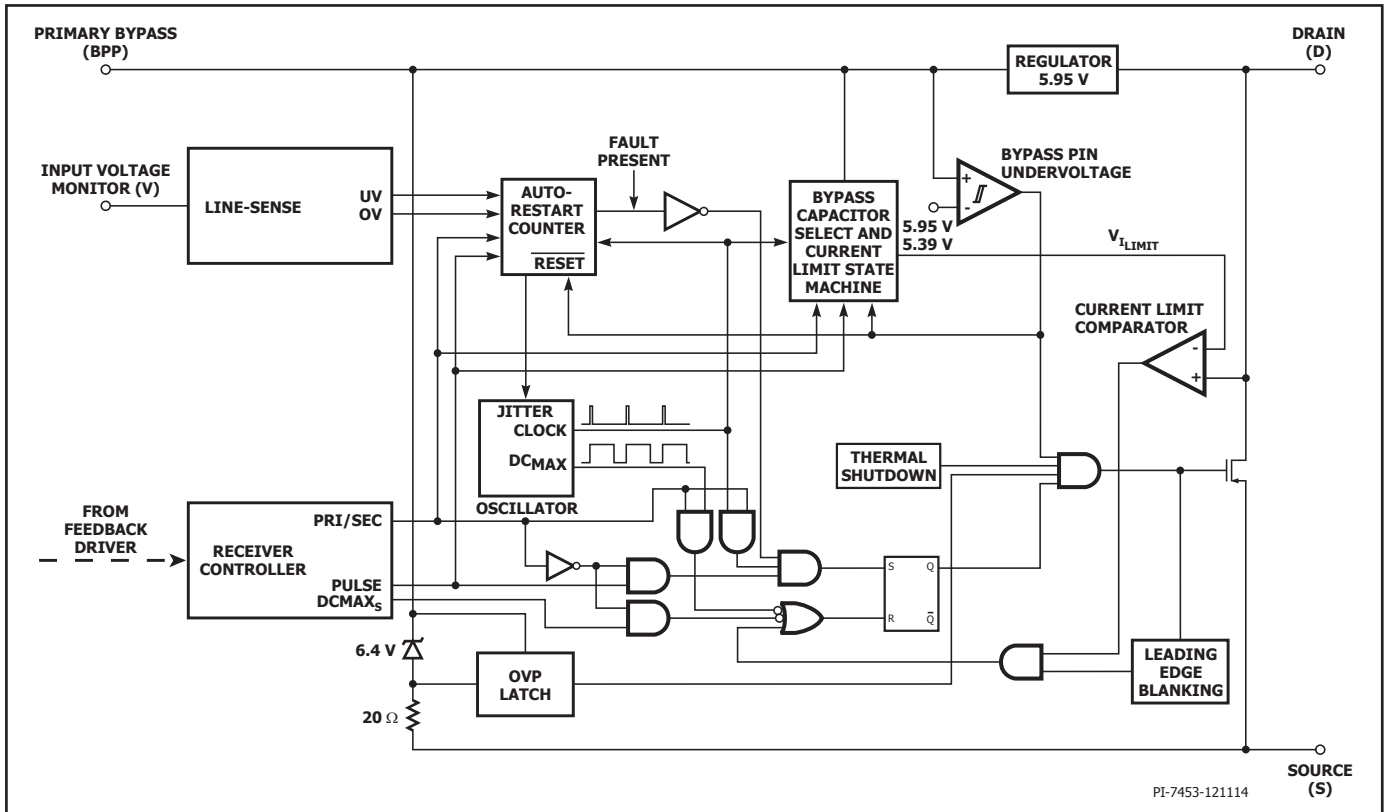

Figure 4. Primary-Side Controller Block Diagram.
The InnoSwitch-CP combines a high-voltage power MOSFET switch, along with both primary-side and secondary-side controllers in one device. It has a novel inductive coupling feedback scheme using the package leadframe and bond wires to provide a reliable and low-cost means to provide accurate direct sensing of the output voltage and output current on the secondary to communicate information to the primary IC. Unlike conventional PWM (pulse width modulated) controllers, it uses a simple ON/OFF control to regulate the output voltage and current. The primary controller consists of an oscillator, a receiver circuit magnetically coupled to the secondary controller, current limit state machine, 5.95 V regulator on the PRIMARY BYPASS pin, overvoltage circuit, current limit selection circuitry, over temperature protection, leading edge blanking and a 650 V power MOSFET. The InnoSwitch-CP secondary controller consists of a transmitter circuit that is magnetically coupled to the primary receiver, constant voltage (CV) and constant current (CC) control circuitry, a 4.4 V regulator on the SECONDARY BYPASS pin, synchronous rectifier MOSFET driver, frequency jitter oscillator and a host of integrated protection features. Figures 4 and 5 show the functional block diagrams of the primary and secondary controllers with the most important features.
As shown in the block diagram in Figure 4, the secondary controller is powered through a 4.45 V Regulator block by either VOUT or FORWARD pin connections to the SECONDARY BYPASS pin. The SECONDARY BYPASS pin is connected to an external decoupling capacitor and fed internally from the regulator block.